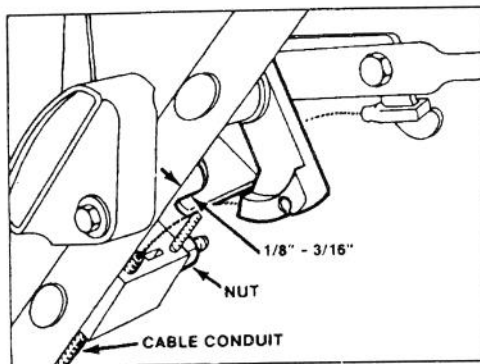

Figure 24
2. CHECK ADJUSTMENT (Fig. 24) — Move control bar toward handle until slack in wire is removed. Gap between brake lever and handle must be $1/8'' - 3/16''$. See step 3 for adjustment.
3. ADJUST CABLE CONDUIT (Fig. 24) — Loosen nut on cable bracket. Insert $1/8'' - 3/16''$ object between brake lever and handle. Pull down on cable conduit until all slack is removed from wire. Then tighten nut.